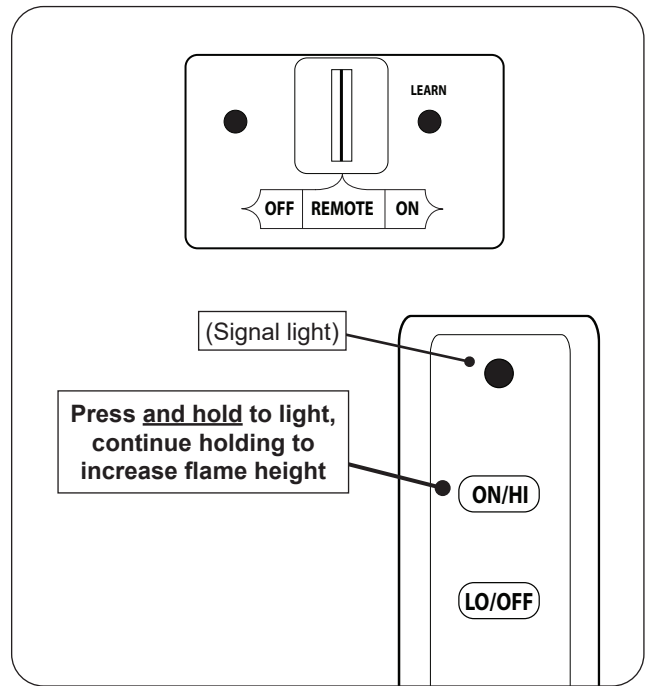

Fig. 31-1 Remote lighting
1. Ensure the pilot is burning. Locate the 3-position switch on the remote receiver, and slide the switch to **REMOTE** (see Fig. 31-1).
2. Locate the remote transmitter and press and hold the **ON/HI** button (see Fig. 31-1). The ignition sequence will begin.